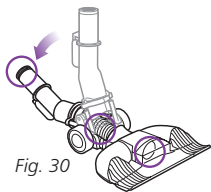

Fig. 30
- Straighten out the neck and look inside the tube at the top of the nozzle. Check for blockages where the hose bends and in the intake opening. (Fig. 30)